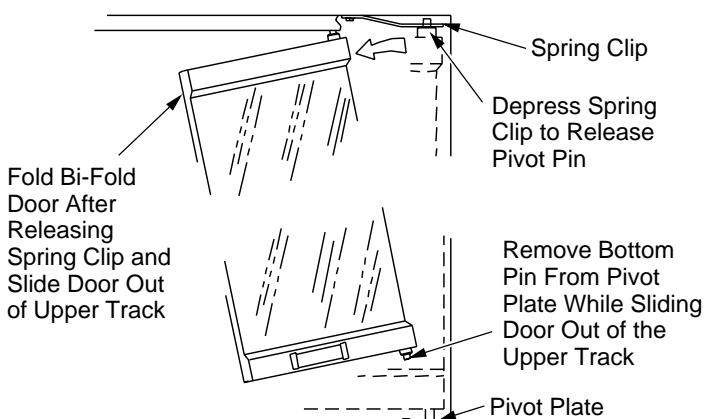

Figure 32 - Removing Glass Doors
2. Fully fold the frame assembly and slide the upper edge towards the center of the firebox opening until the guide pins are free of the frame rail (see Figure 32).